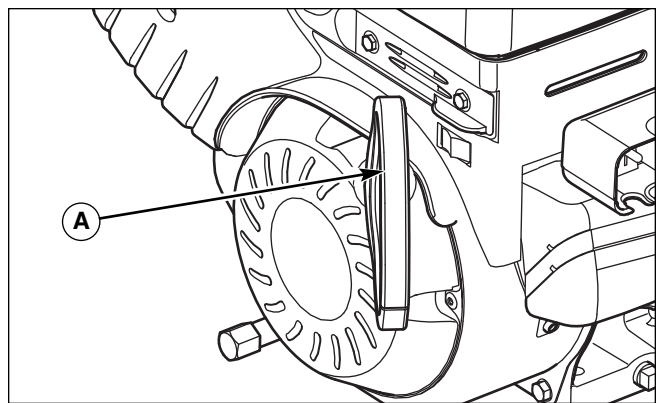

Figure 5. Rewind Start
7. **Rewind Start:** Firmly hold the starter cord handle (A, Figure 5). Pull the starter cord handle slowly until resistance is felt, then pull rapidly.